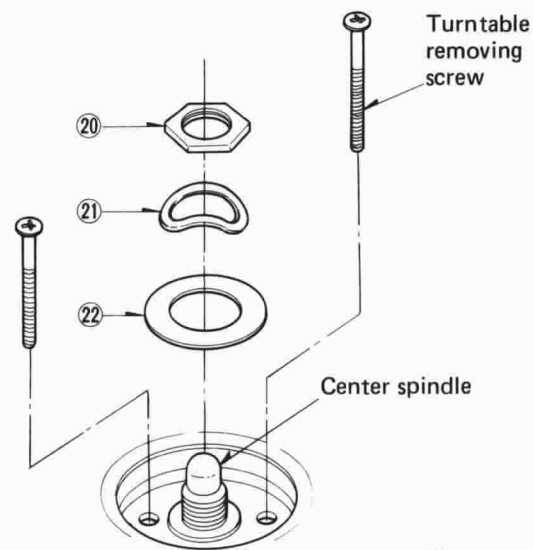

Fig. 1
2. Remove the nut 20, washers 21 and 22 used to secure the turntable. (See Fig. 1.)
3. Set 3mm screw into the two holes provided near the center spindle of the turntable, and then lift the screws with both hands to remove the turntable. (See Fig. 1.)